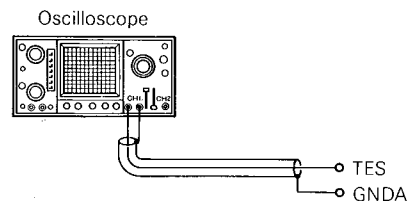
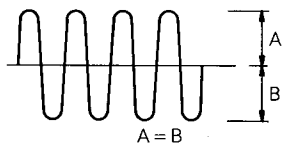

Fig. 15
Fig. 22
- (1) Connect oscilloscope to TES and GNDA. (fig. 15)
- (2) Insert the disc and place the unit in the play mode.
- (3) Release the tracking servo. (Step 6-3)
- (4) Adjust diffraction grating screw so that the waveform becomes maximum.
- (1) Connect the oscilloscope (DC input) to TES and GNDA. (fig. 15)
- (3) Release tracking servo. (See step 6-3)
- (4) Adjust VR104 so that the amplitude above and below the zero DC line becomes equal. (Amplitude A = amplitude B) (fig. 22)